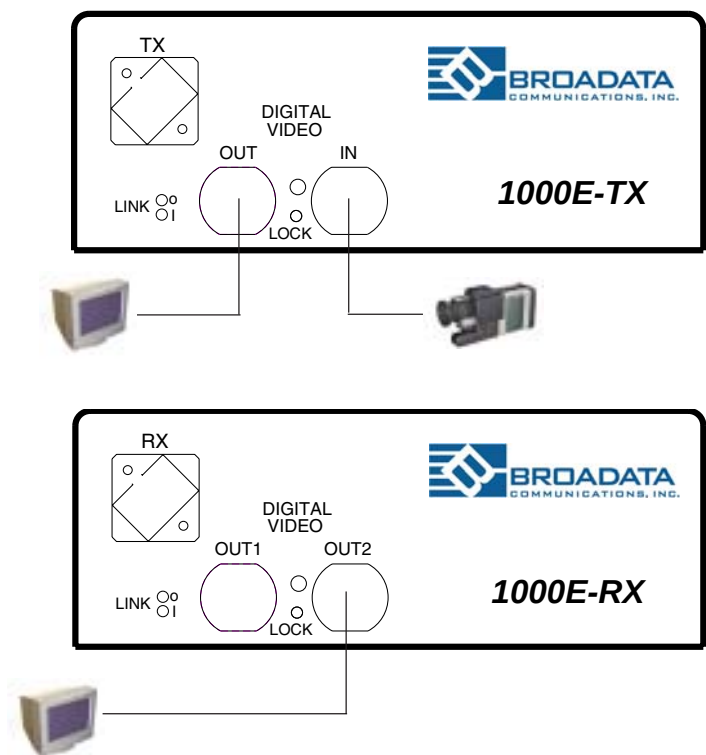

Figure 2-2
1. On the near end, connect the user's digital video source to the 1000E-T (transmitter) unit's digital video input port, using a coaxial cable (i.e., Belden 8281 or better). The digital video output port can be connected to a video monitor, using a coaxial cable, for monitoring purposes (See Figure 2-2).
2. On the far end, connect the 1000E-R (receiver) unit's digital video output ports (1 to 2) to the user's digital video receivers, using coaxial cables. (See Figure 2-2).